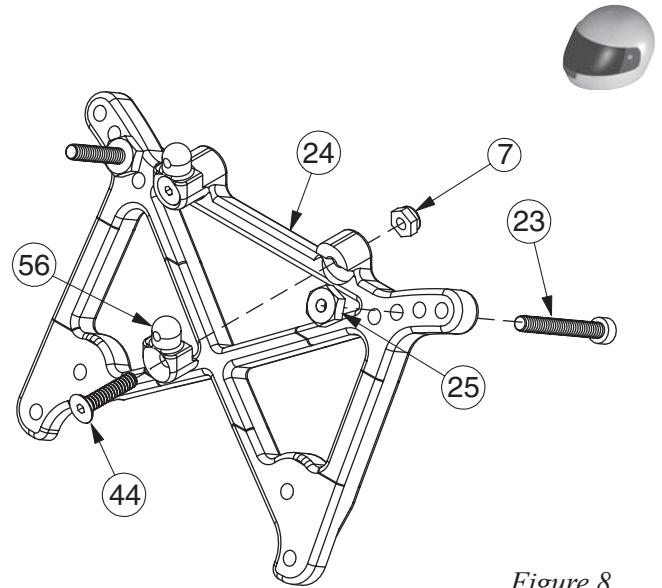

Figure 8
1. Insert two 4-40 x 7/8" Cap Head Screws (23) — one on each side — through the second hole out (#2) in the top of the front Shock Tower (24). Secure the Screws to the Shock Tower (24) by threading a 4-40 Nut (25) over each Screw and tightening.
2. Press a 4-40 Mini Locknut (7) into the hex area in the top, rear of each side of the front Shock Tower. Insert a 4-40 x 1/2" Flat Head Screw (44) into each of the two front Body Mounts (56) from the side with the recess for the head of the Screw.
3. Attach a front Body Mount to the front of each side of the front Shock Tower so that the posts point up as shown in Figure 8. Secure the Body Mounts by threading the Screws through the Tower and into the Locknuts.